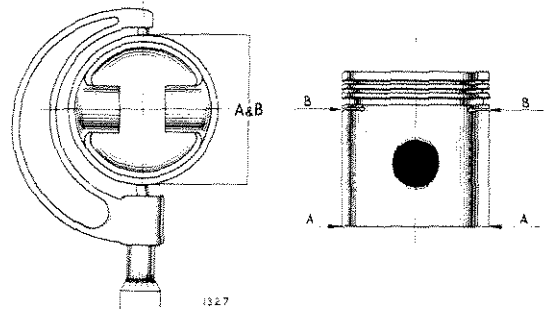

Fig. 33. Measuring piston across thrust face
**Piston Measurement** The piston dimensions given on page 1-103 are the maximum when measured across the thrust faces at the top of the skirt 'BB' and bottom of the skirt 'AA' (Fig. 33).